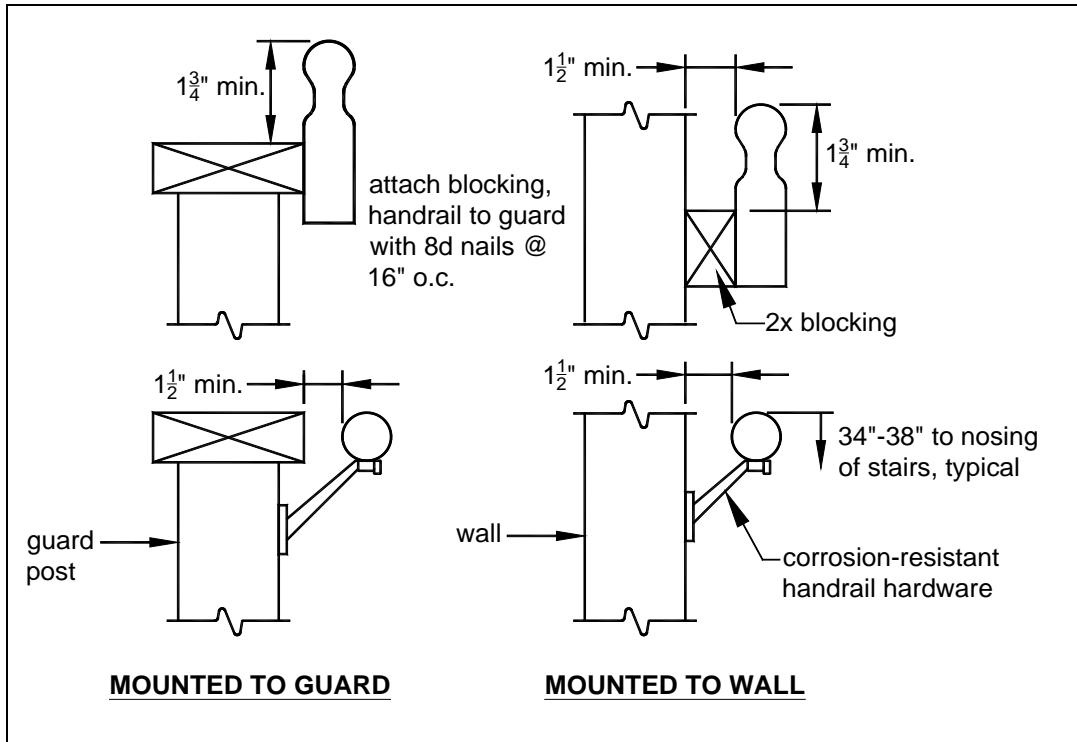

FIGURE 38: HANDBRAIL REQUIREMENTS
- Handrail shall be attached to the stair guard or an existing exterior wall which acts as a barrier to the stairs. See FIGURE 38.